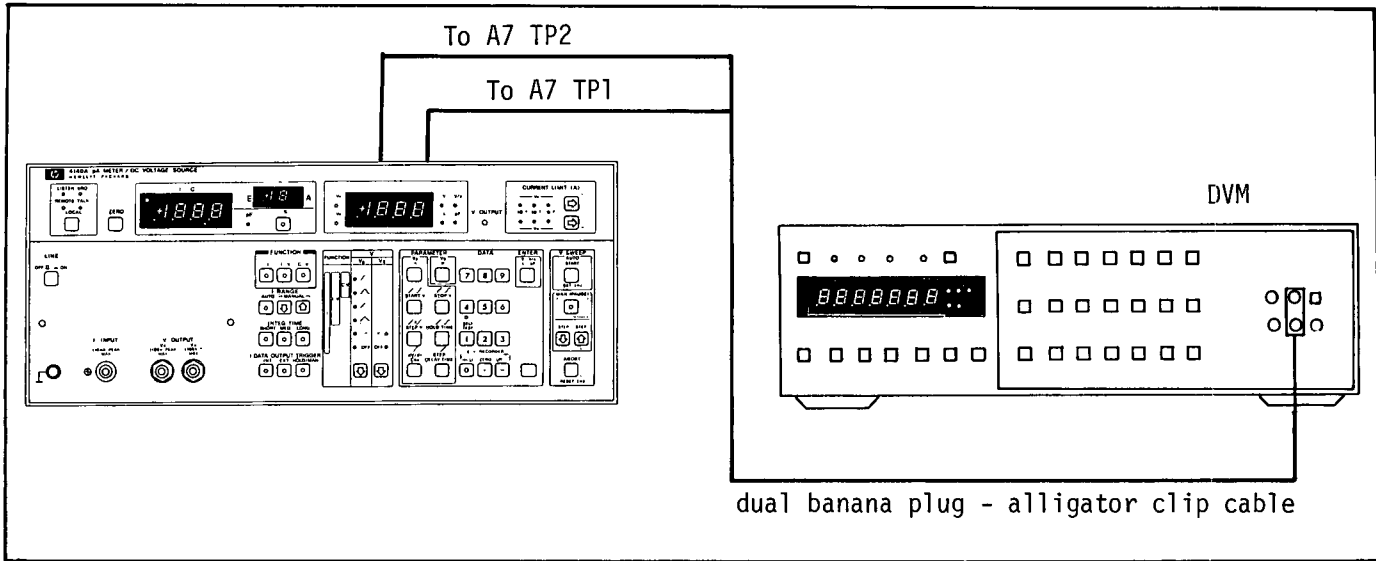

Figure 5-1. Power Supply Voltage Adjustment Setup.
1. Connect DVM plus input to A7TP2 (-15VF) and minus input to A7TP1 (F COMM) with dual banana plug - alligator clip cable. See Figure 5-1.